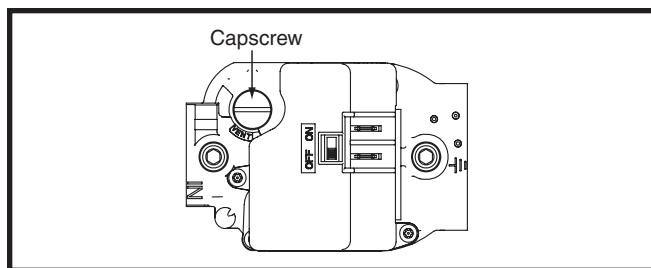

Figure 31. Regulator Capscrew
- b.) Remove the regulator capscrew (Figure 31) from the INLET side of the regulator.